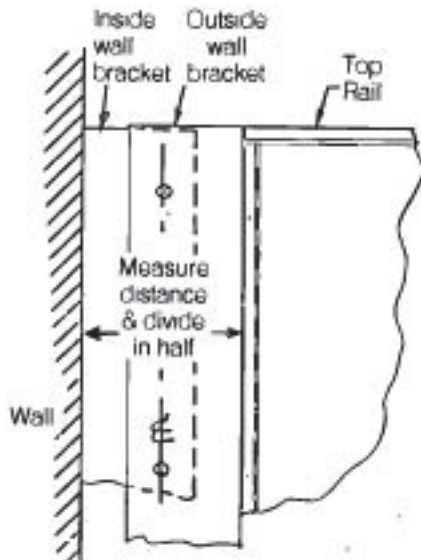

Fig 5
9. Level panel and drilling 4 - 1/8" diameter holes along center line of wall brackets. 2 holes per side. See Fig. 5.
10. Lock the 2 sections of WB brackets together by screwing 4 - #6 x 3/8" screws into 1/8" holes. See Fig. 5.